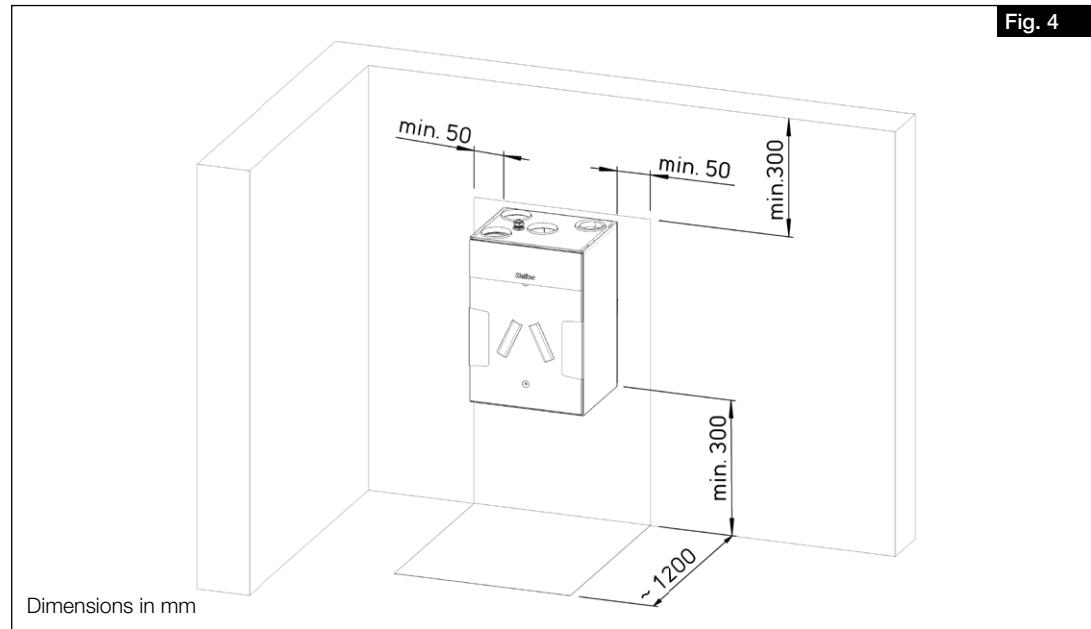

Fig. 4
The unit and terminal box must be freely accessible for maintenance and installation work. The following minimum clearances to the wall, floor and ceiling must be observed and adhered to (see Fig. 4).
3. There must be sufficient space to allow easy access to the unit. At least 30 cm must be kept clear above and below the unit for maintenance work (cf. Fig. 4).
4. An additional 30 cm space must be kept clear on the unit side for the installation of the external terminal box (cf. Fig. 4).
5. In order to ensure safe condensate drainage, the unit must be mounted so that the bottom edge is at least 300 mm above the ground (cf. Fig. 4).